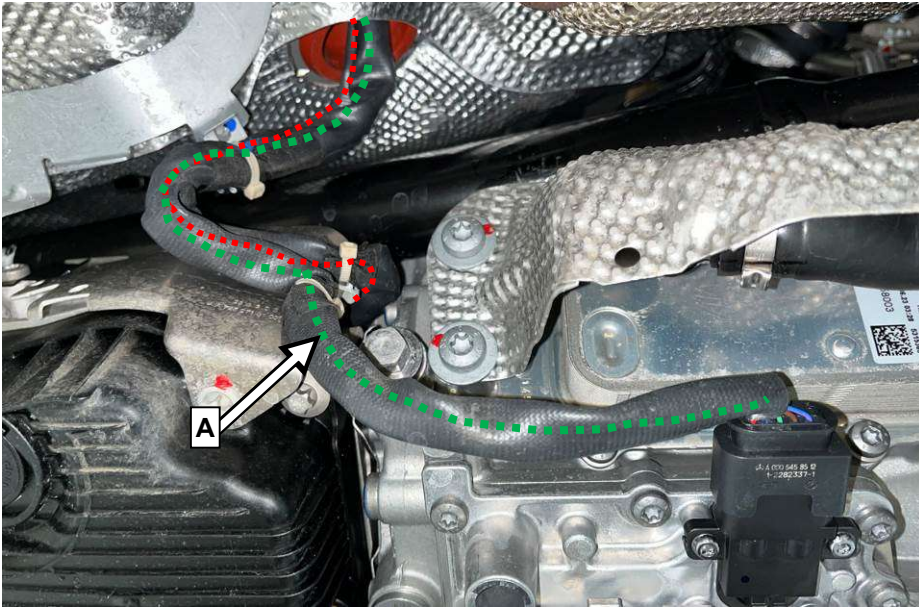

Figure 4
2. Route electrical wiring harness (**Figure 4, A**) correctly as shown
i The electrical wiring harness (**Figure 4, A**) must not be in contact with indicated parts **in any location**.
- i** One or more of the electrical signal lines (line cross section 0.35 mm² to 0.75 mm²) in the electrical wiring harness (**Figure 4, A**) shows signs of damage.
2. Repair the respective affected electrical signal line (line cross section 0.35 mm² to 0.75 mm²) in the electrical wiring harness (**Figure 4, A**) using a line connector.
3. Route electrical wiring harness (**Figure 4, A**) correctly as shown.
i The electrical wiring harness (**Figure 4, A**) **must not be** in contact with indicated parts **in any location**.